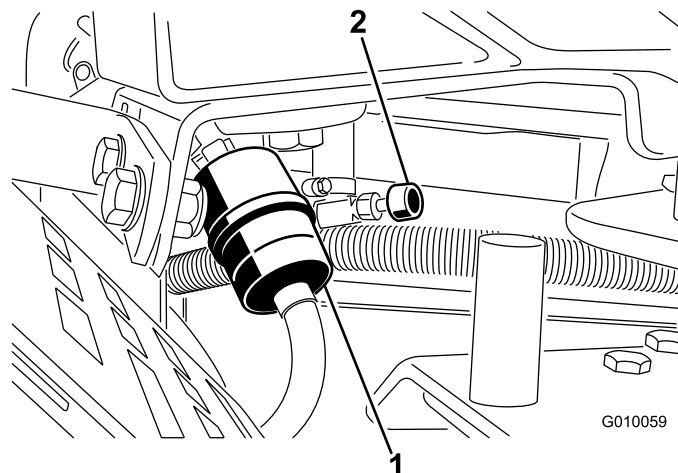

Figure 51
2. Close the fuel-shutoff valve (Figure 51).
3. Squeeze the ends of the hose clamps together and slide them away from the filter (Figure 51).
5. Install a new filter and move the hose clamps close to the filter (Figure 51).
7. Open the fuel-shutoff valve (Figure 51).
3. Loosen the hose clamp at the fuel filter and slide it up the fuel line away from the fuel filter (Figure 51).
4. Pull the fuel line off the fuel filter (Figure 51). Open the fuel-shutoff valve and allow fuel to drain into a fuel can or drain pan.
5. Install the fuel line onto the fuel filter. Slide the hose clamp close to the fuel filter to secure the fuel line (Figure 51).